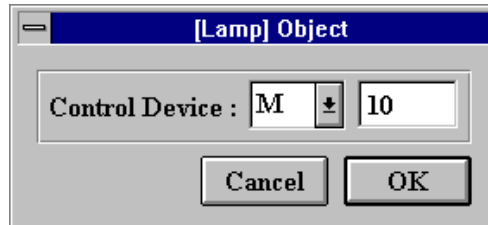

Fig. 3-10: Lamp Object Dialog
- 4) Release the left mouse button. The **Lamp Object Dialog** is popped up as shown in Fig.3-10.